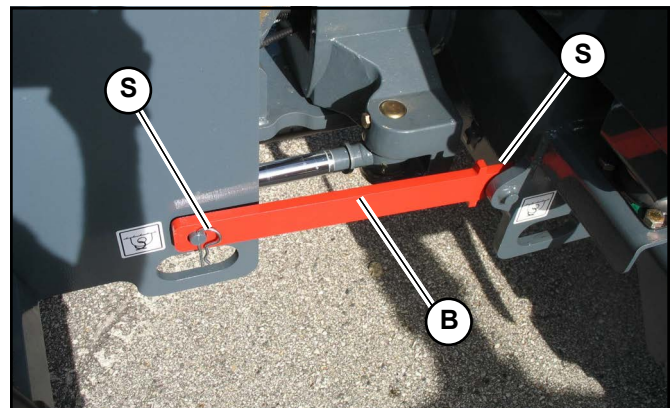

Fig. 142 – Steering Lock Bar
3. Secure the steering lock bar (B, Fig. 142) in the locked position using the spring pins (S) provided.